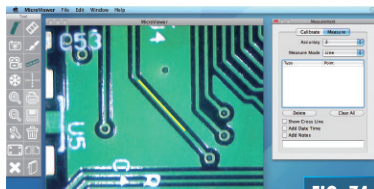

FIG. 74
5. Release the mouse button, and the line will appear. The number is the length in the calibrated units of measure (Fig. 74).